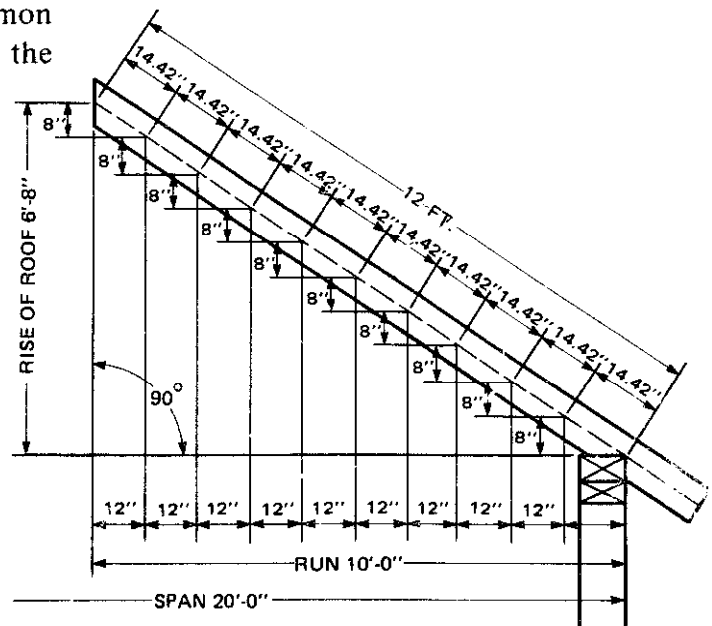

Fig. 3-7 Finding the total length of the rafter
3. Since the length of the rafter per foot run equals 14.42 inches, the total length of the rafter is 14.42 multiplied by 10. This equals 144.20 inches, or  $144.20 \div 12 = 12.01$  feet or, rounded off, 12 feet. See figure 3-7.